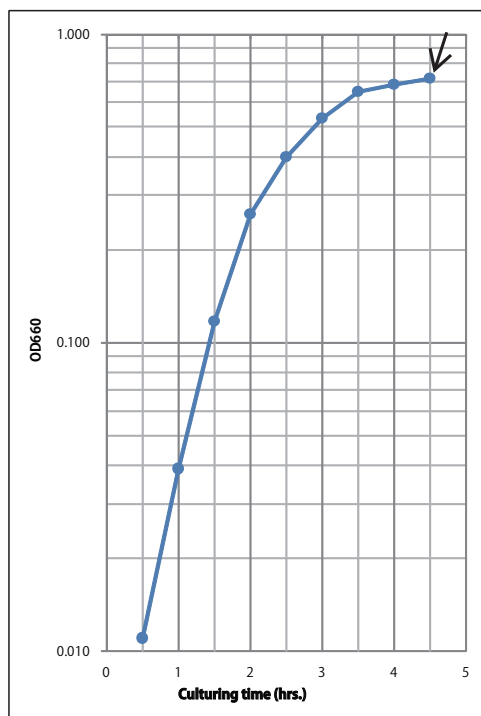

Fig. 4 Growth curve of *B. subtilis* RIK1285
- 4) Measure OD660 every 30 minutes beginning 1 hour after the start of culturing, and stop culturing once the culture has entered the plateau phase (Fig. 4: near arrow).\* 1